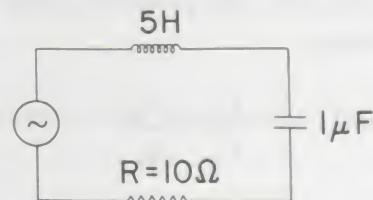

Figure 44.
**Problem 8.** Find the resonant frequency of the series circuit shown in Figure 44.